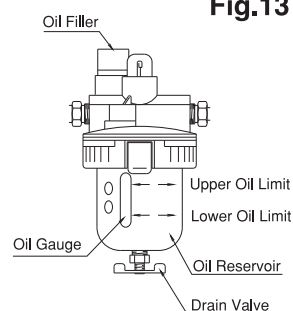

Fig.14
④ Remove Oil and Moisture Regularly(Fig.14)